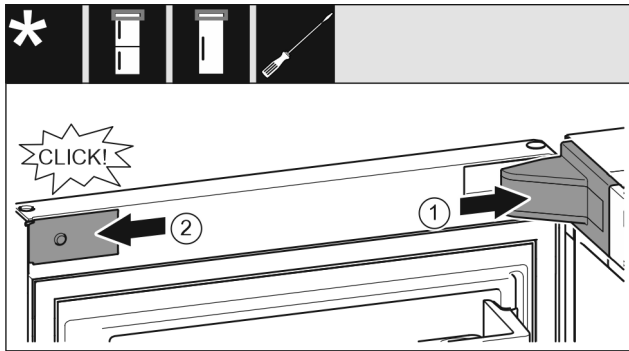

Fig. 20
- Position the bearing bracket cover and engage it. If necessary push it apart carefully. Fig. 20 (1)
- Position the panel on the side and latch into place. Fig. 20 (2)